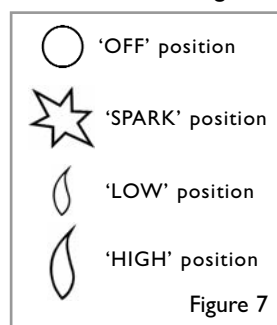

Figure 7
- The control knob is located on the lower right hand side of the outer case. It is of a spherical design and is marked as shown in figure 7.